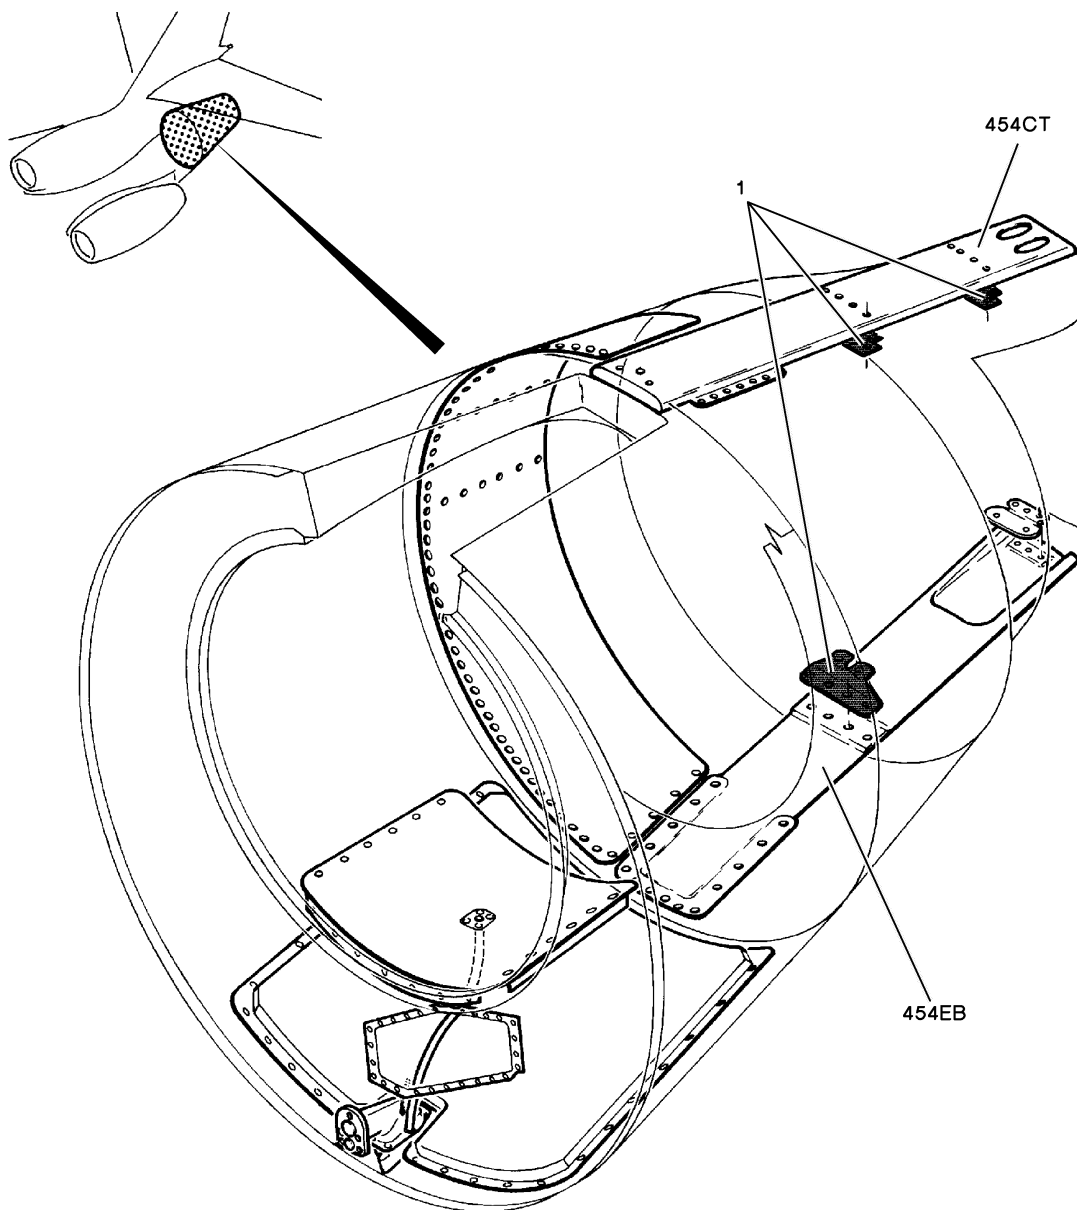

Figure 2: CHECK OF BRACKETS
Refer to **fig. 1** and **fig. 2**
(1) Check wiring for condition, routing and attachment.
(2) Check wiring connectors for correct connection.
H. Check brackets (1-fig. 2) for damage.